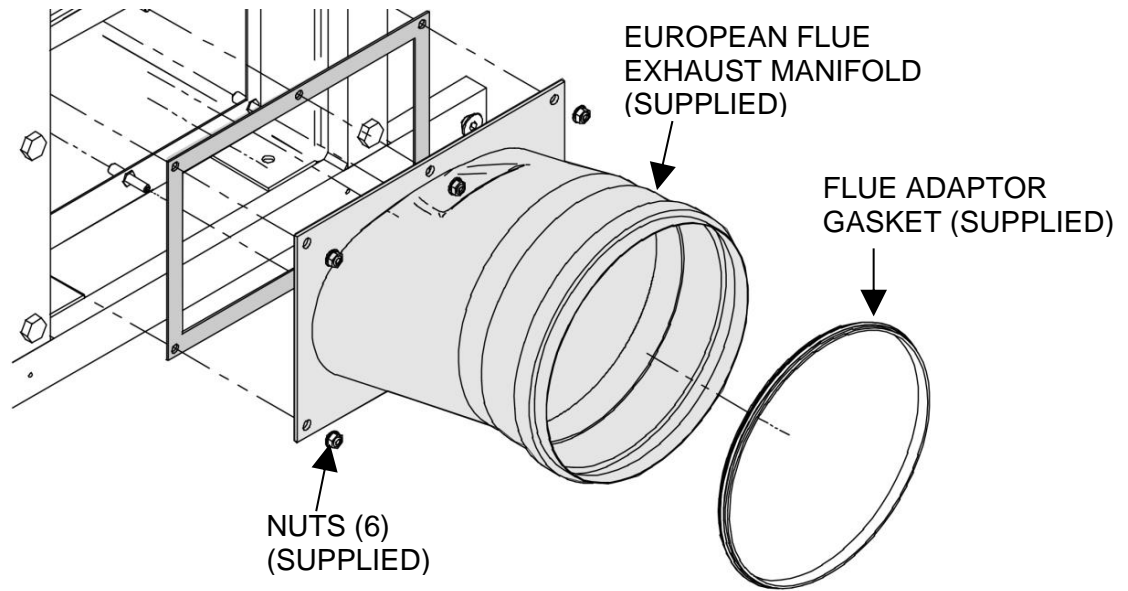

Figure 11: Connect Exhaust Manifold to Flue Exhaust Outlet (EXT 450 2S - 1100 2S)
- Install supplied vent pipe starter piece at the boiler vent connector and work toward the vent or rain cap. To attach the exhaust connector to the flue collector, use the screws and the gasket supplied inside the plastic bag. Use a 14mm socket wrench with at least a 12 inch (300 mm) extension. See Figures 11 and 12.